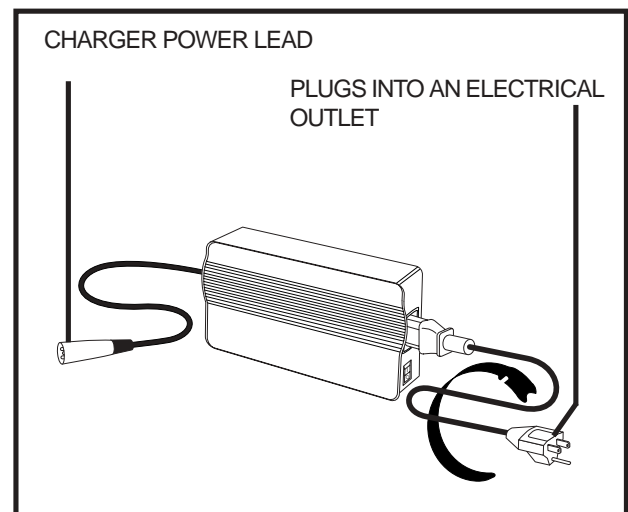

Figure 10A. Off-Board Charger
4. Plug the charger power lead (see figure 10A) into the charger power lead receptacle on your scooter. See figure 11.